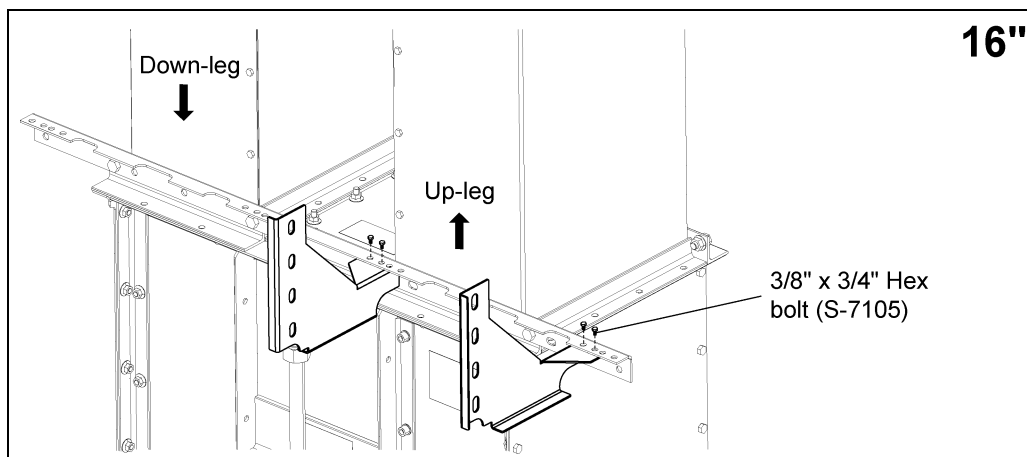

Figure 4M 16" Boot Bracket Up-Leg
- b. **If using the 16" up-leg:** Use 3/8" x 3/4" hex bolts to attach the ladder support brackets to the boot tie angle using the holes indicated in Figure 4M. Note the outer bracket attaches to the tie angle with two (2) empty holes to the outside.